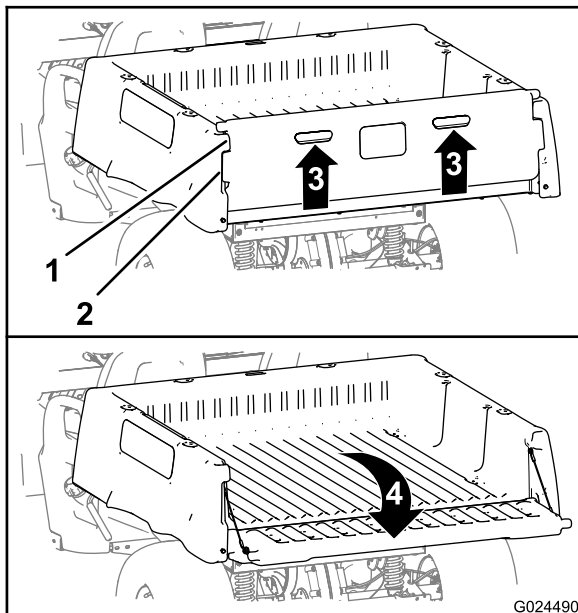

Figure 13
2. Lift up on the finger pulls at the back panel of the tailgate (Figure 13).
3. Align the lock flanges of the tailgate with the openings between the tailgate flanges of the cargo box (Figure 13).
4. Rotate the tail gate rearward and down (Figure 13).
2. Rotate the tailgate up and forward until the lock flanges of the tailgate are flush with the tailgate pocket in the cargo box (Figure 13).
3. Lower the tailgate until it is seated in the back of the cargo box (Figure 13).